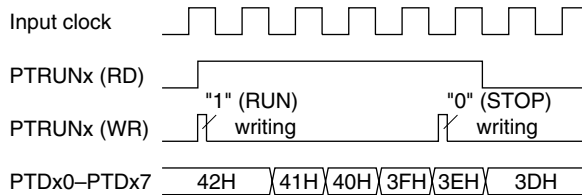

Fig. 4.11.10.1 Timing chart for RUN/STOP control
- (1) When reading counter data, be sure to read the low-order 4 bits (PTDx0–PTDx3) first. Furthermore, the high-order 4 bits (PTDx4–PTDx7) should be read within 0.73 msec (when fOSC1 is 32.768 kHz) of reading the low-order 4 bits (PTDx0–PTDx3).
- (2) The programmable timer actually enters RUN/STOP status in synchronization with the falling edge of the input clock after writing to the PTRUNx register. Consequently, when "0" is written to the PTRUNx register, the timer enters STOP status at the point where the counter is decremented (-1). The PTRUNx register maintains "1" for reading until the timer actually stops. Figure 4.11.10.1 shows the timing chart for the RUN/STOP control.